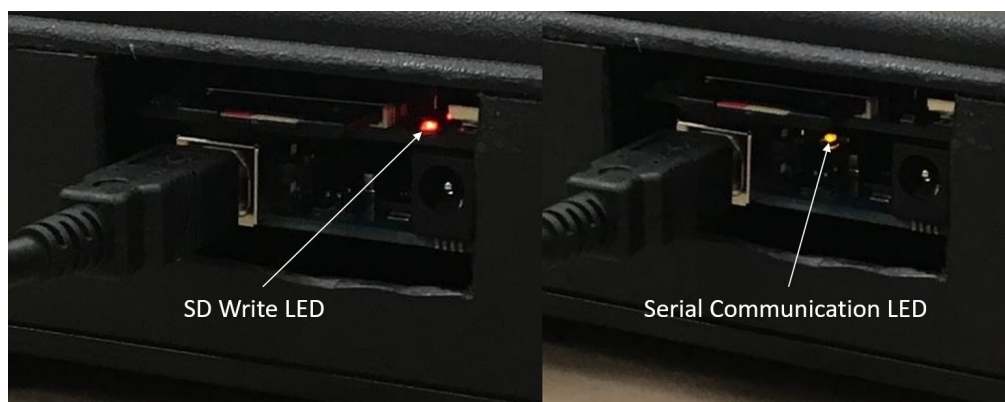

Figure 9: Control LEDs inside the TA-DA
- Upon opening the program, a yellow LED in the TA-DA should begin flashing (See Figure 9)